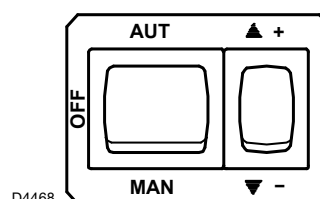

Fig. 20
- 2 Select the "MAN" operating mode (Fig. 20) and carry out the calibration of CAM III of the servomotor and the calibration screw of the POINT 0 as indicated in Tab. M, then start the burner.
- 3 After igniting, manually bring the servomotor to the second flame position by pressing the "+" switch (Fig. 20). During this operation check the stability of the flame: if it is unstable, slowly increase or decrease the setting of the gas/air ratio calibration screw until the desired maximum output and the correct CO₂ values in the flue gases are attained, then calibrate cam I to the value reached by the servomotor.
- 4 Manually bring the servomotor to the first flame position by pressing the "-" switch (Fig. 20). Check the combustion and if necessary use just the screw for calibrating the POINT 0 to obtain the correct CO₂ values in the flue gases.
- 9 Check the combustion values at an intermediate output and if necessary proceed with further adjustments of the gas/air calibration and the POINT 0 screws. When finished, after checking that the burner has a good ignition and good flame stability, select automatic operating by putting the selector switch to "AUT" (Fig. 20): the modulation will occur between the calibration position of CAM II and that of CAM I.
If the cam angle needs to be increased, it is first necessary to increase the angle of the servomotor with the key "increase output" +)(Fig. 20), then increase the angle of **CAM III** and finally bring the servomotor to the MIN output position with the key "decrease output" -(Fig. 20).